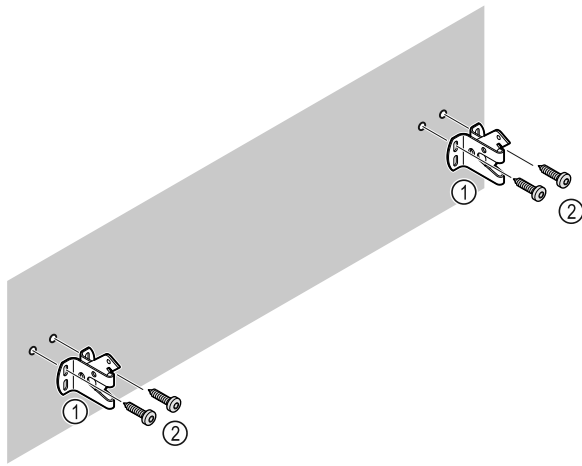

Fig. 12
Use fixing material (e.g. wall anchors) which is appropriate for the nature of the wall (wood, concrete) and sufficient attachment points Fig. 12 (2).
- ▶ Attach retaining hooks. Fig. 12 (1)